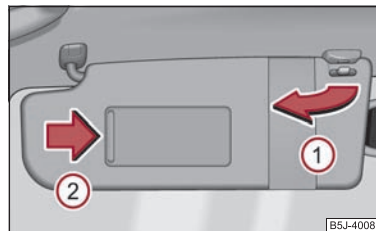

Fig. 45 Sun visor: swivelling out
You can pull the sun visor for the driver or front passenger out of the fixture and swivel it toward the door in the direction of the arrow ① ⇒ fig. 45.